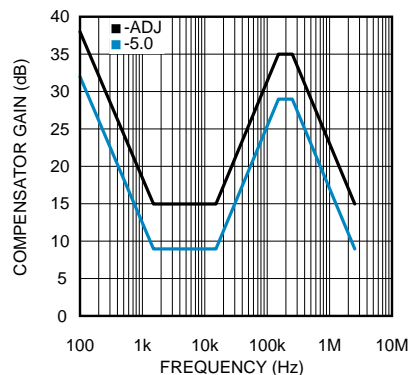

Figure 14. Compensator Gain
The complete transfer function for the regulator loop is found by combining the compensation and power stage transfer functions. The LM22677 has internal type III loop compensation, as detailed in Figure 14. This is the approximate "straight line" function from the FB pin to the input of the PWM modulator. The power stage transfer function consists of a dc gain and a second order pole created by the inductor and output capacitor(s). Due to the input voltage feedforward employed in the LM22677, the power stage dc gain is fixed at 20 dB. The second order pole is characterized by its resonant frequency and its quality factor (Q). For a first pass design, the product of inductance and output capacitance should conform to Equation 3.